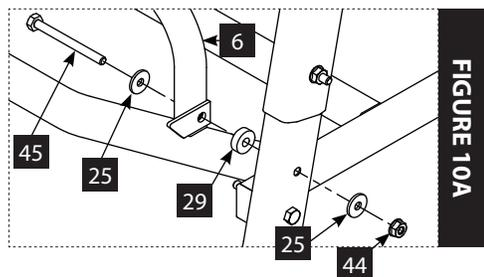

FIGURE 10A
16. The footrest (6) is secured to the platform rails (8) using two 1/4-20 x 2-3/4 IN bolts (45), four yellow washers (25), two yellow spacers (29) and two 1/4-20 nuts (44). **SEE FIGURE 10 AND FIGURE 10A**